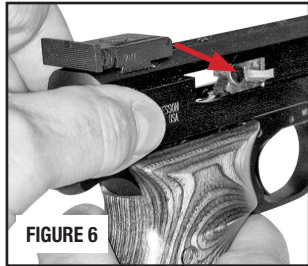
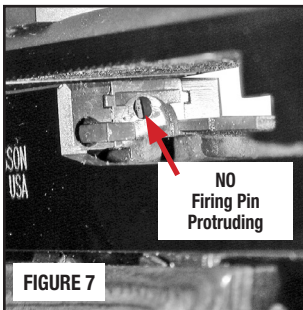

FIGURE 6
FIGURE 7
- Point the muzzle in a safe direction, grasp the serrated sides of the slide from the rear with the thumb and fingers as shown in FIGURE 6, and briskly draw the slide fully rearward to extract any cartridge from the barrel chamber and clear it from the pistol. Do not obstruct the ejection port because doing so can interfere with ejection of a cartridge.
- Check the barrel chamber and bore visually for any obstructions (FIGURE 6). Observe the breech face to ensure that the firing pin is not protruding from the breech face (FIGURES 7 and 8).